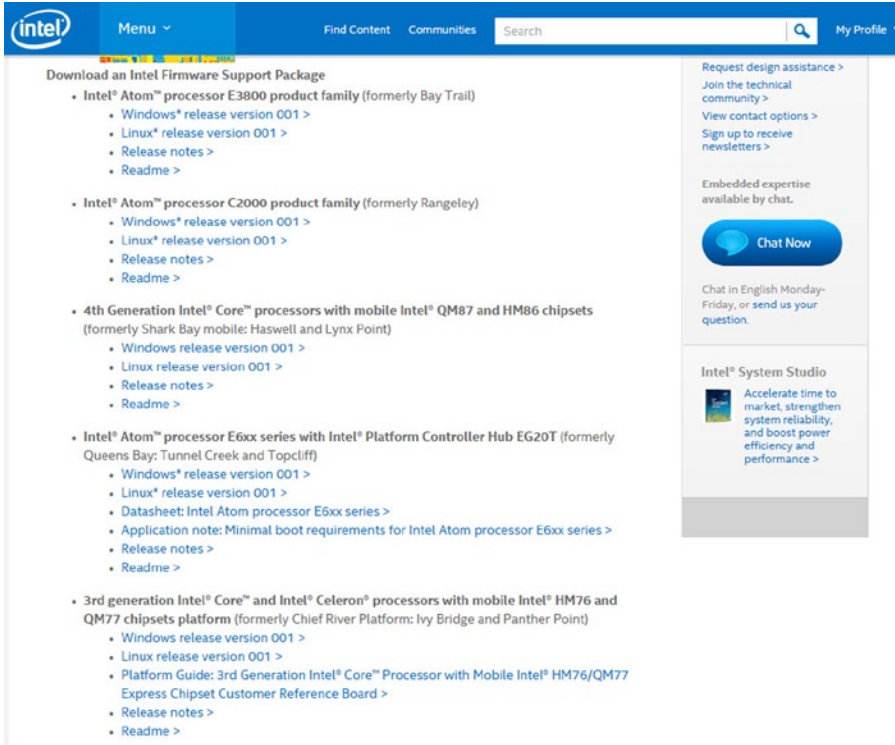

Figure 3-5. Intel FSP download selection
- Once you click the “Download an Intel FSP” link, it takes you to the next screen, as shown in Figure 3-5. Select the kind of package you want: Windows or Linux.